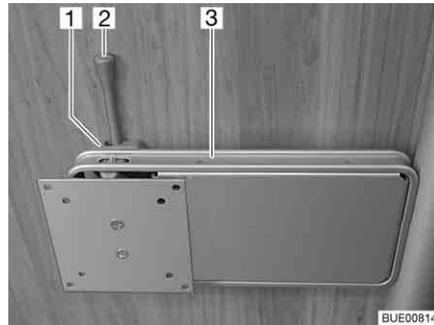

Fig. 71 Holder on the column
- Push the release lever (Fig. 71,2) to the side and turn the holder (Fig. 71,3) with the flat screen to the desired position.
- Turn flat screen back until the holder (Fig. 71,3) engages in the lock (Fig. 71,1).